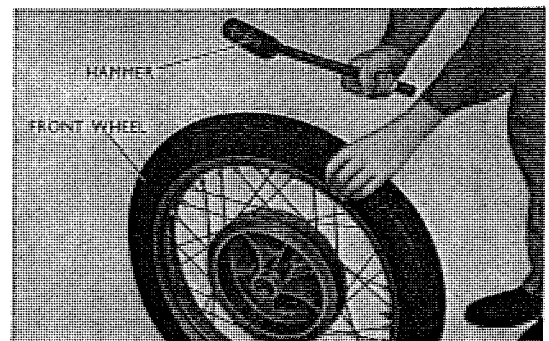

Fig. 4.75 Tapping tire circumference lightly
- (a) When the tire is on the rim, apply air to 1/3 the designated pressure and lightly strike around the tire with a wooden wallet in order to prevent the tube from being pinched. (Refer to Fig. 4.75)